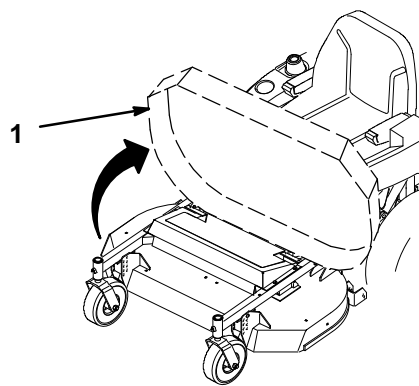

Figure 15
4. Standing in front of the mower, lift up and push rearward on front to raise mower (Fig. 15).
2. Standing in front of the mower, pull forward on front and lower mower (Fig. 15).